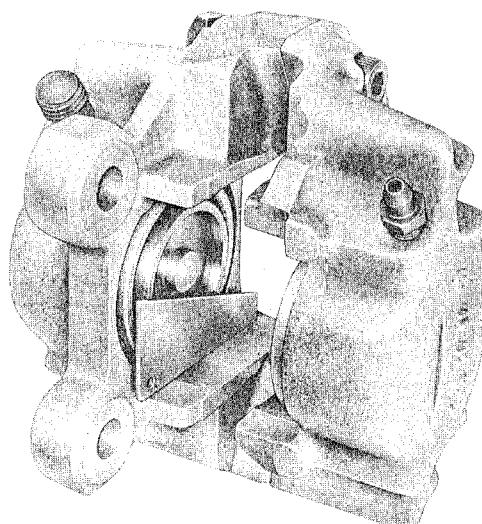

Fig. 47
- The piston gauge must be inserted into the brake caliper always from the direction of the axle's center and the stepped-down part of the piston must line up with the slanted edge of the piston gauge. When aligning the pistons in the front brake calipers, the right-angle edge of the gauge is placed on the bottom edge of the caliper. When aligning the rear brake calipers, the right-angle edge of the gauge is placed against the upper edge of the calipers. Fig. 47 shows a brake caliper for the front brake.